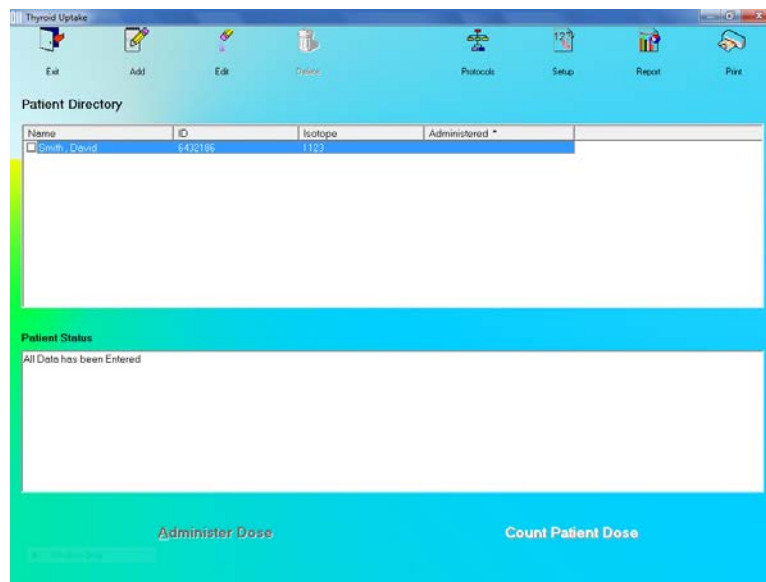

Figure 7-1 Main Thyroid Uptake Screen
To access the Thyroid Uptake functions, click the **Thyroid Uptake** button or press *Alt+U* on the CAPTUS® 3000 Main screen. Figure 7-1 Main Thyroid Uptake Screen will appear. The **Patient Directory** box will be empty if there are no existing patients in the database. This box will display the patient's name, ID, administered isotope (if known) and the time and date of dose administration (if already done). By default, patients are sorted by their dose administration time, latest one first. The **Patient Status** box below the **Patient Directory** box shows the current status of the selected patient. If the uptake procedure has been started, the updated results will be displayed here.
To return to the CAPTUS® 3000 Main screen from Figure 7-1 Main Thyroid Uptake Screen, click the  icon or press the *Esc* key.
Note: *At least one measurement protocol must be set up before any patient can be added to the **Patient Directory** or any other function can be accessed from Figure 7-1 Main Thyroid Uptake Screen.*
11. To stop adding protocols, click the  button to return to Figure 7-1 Main Thyroid Uptake Screen.
- To return to Figure 7-1 Main Thyroid Uptake Screen from the Protocols screen, click the  icon or press the *Esc* key.
6. Click the  icon return to Figure 7-1 Main Thyroid Uptake Screen.